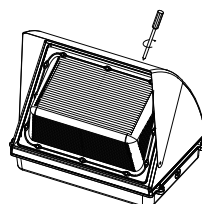

Figure 6
6. Please subject to the installation steps according to the actual products purchased. Follow the below additional installation steps if the product is equipped with areflector (Take the SWP01 series for example). When metal reflector is equipped, pls lock it on the luminaire with screws.(Figure 6)